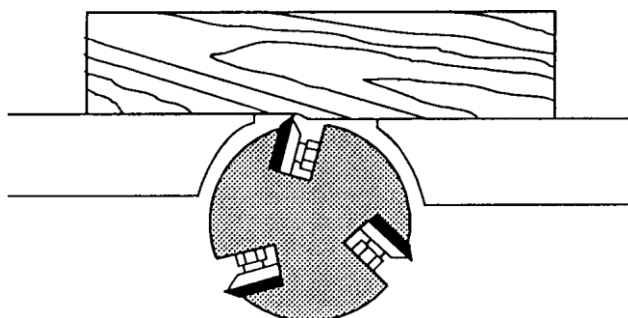

FIGURE 19
3. For a final check, set the infeed table for no more than a 1/64" cut, turn on machine and run a piece of wood over the cutterhead for 6 to 8 inches. The stock should rest firmly on both tables with no space under the finished cut as shown in Figure 19.